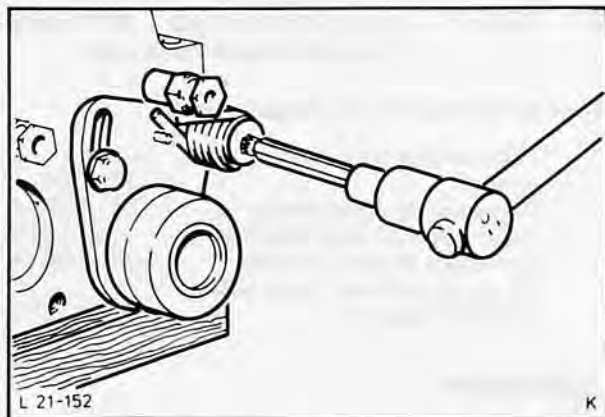

Fig. 156. Remove toothed belt tensioner, using Special Tool 21-012
9. Remove toothed belt tensioner (2 bolts, 1 spring), using Special Tool 21-012, Fig. 156, and remove toothed belt guard spacer bolts (2).